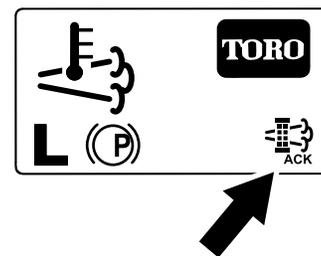

Figure 60
8. The InfoCenter displays the home screen and the regeneration acknowledge icon (Figure 60) appears in the lower right corner of the screen as the regeneration processes.